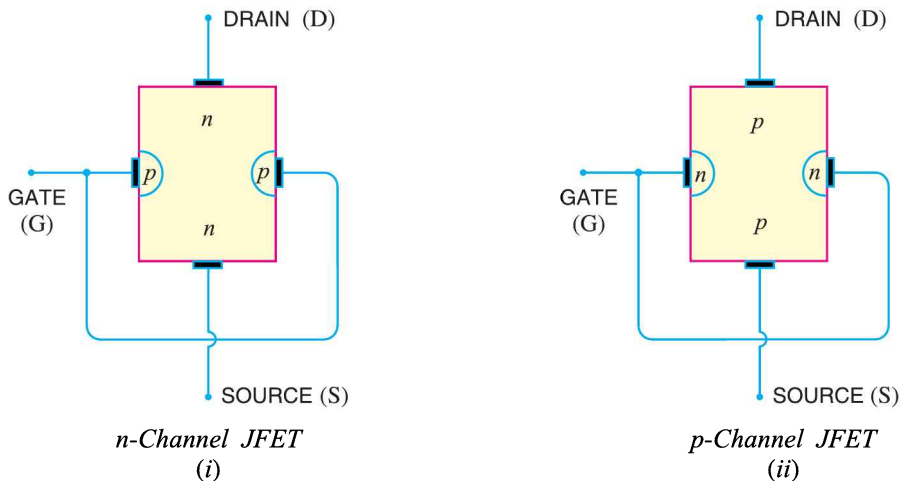

Fig. 19.1
Constructional details. A *JFET* consists of a *p*-type or *n*-type silicon bar containing two *pn* junctions at the sides as shown in Fig.19.1. The bar forms the conducting channel for the charge carriers. If the bar is of *n*-type, it is called *n-channel JFET* as shown in Fig. 19.1 (i) and if the bar is of *p*-type, it is called a *p-channel JFET* as shown in Fig. 19.1 (ii). The two *pn* junctions forming diodes are connected *internally and a common terminal called *gate* is taken out. Other terminals are *source* and *drain* taken out from the bar as shown. Thus a *JFET* has essentially three terminals *viz.*, *gate* (*G*), *source* (*S*) and *drain* (*D*).
* It would seem from Fig. 19.1 that there are three doped material regions. However, this is not the case. The gate material surrounds the channel in the same manner as a belt surrounding your waist.